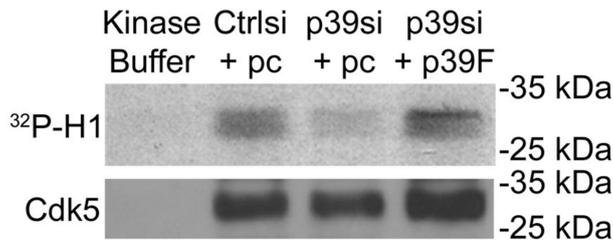

Figure 4. Detection of Cdk5 kinase activity and protein levels in immunoprecipitates.
14. Expose the membrane to film or phosphorscreen at $-80\text{ }^{\circ}\text{C}$ (see example in Figure 4).
12. Expose the membrane to film (see example in Figure 4).